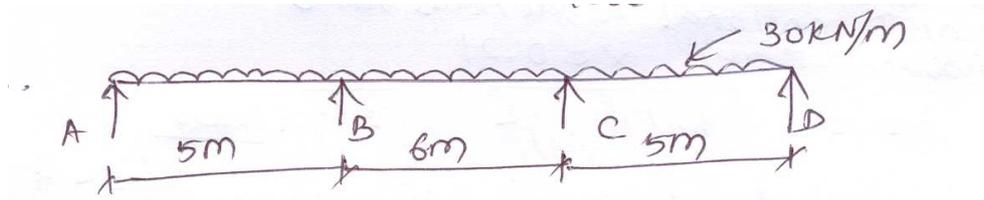

Fig: 1
- b) Three span continuous beam subjected to a total design load is shown in fig.1 Design a suitable section for the beam using plastic analysis . It may be assumed that the beam is adequately braced against lateral deflection and twist over its full length